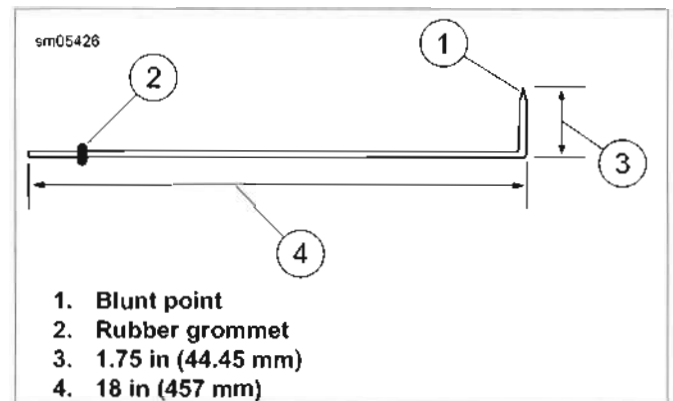
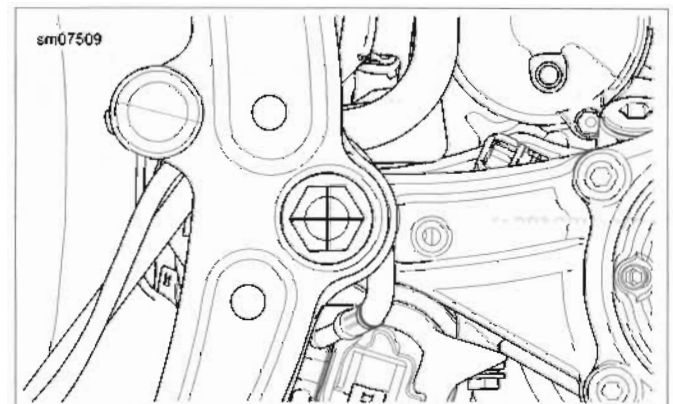

Figure 2-38. Axle Alignment Tool
Figure 2-39. Pivot Bolt Center Marking
- See Figure 2-38. Fabricate an alignment tool using a piece of 1/8 in (3.175 mm) diameter aluminum welding rod approximately 20 in (508 mm) long:
- Grind one end down to a blunt point (1).
- Use pliers to bend rod at a 90 degree angle (3), 1.75 in (44.45 mm) from the blunt point.
- Place a snug-fitting rubber grommet (2) on rod to act as a slide measurement indicator.
- See Figure 2-39. Measure outer diameter of rear fork pivot bolt and divide measurement by two. Using a pencil, draw a line from two different directions to mark an X.